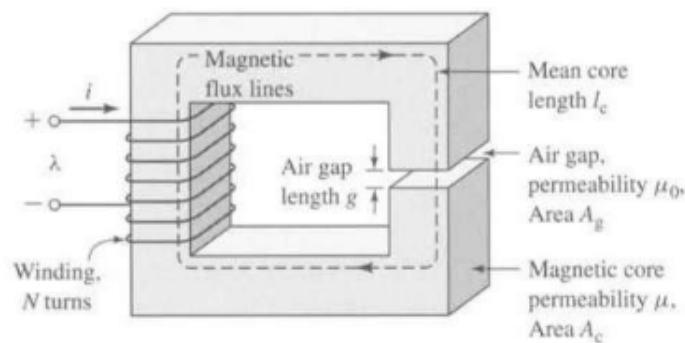

Figure 1
- **Question 1:** The magnetic circuit shown in Fig. 1 has dimensions $A_e = A_g = 9 \text{ cm}^2$, $g = 0.050 \text{ cm}$, $l_c = 30 \text{ cm}$ and $N = 500$ turns. Assume the value $\mu_r = 70,000$ for core material. (a) Find the reluctances R_e and R_g . For the condition that the magnetic circuit is operating with $B_c = 1.0 \text{ T}$, find (b) the flux ϕ and (c) the current i .
- **Question 3:** The relative permeability of the core material for the magnetic circuit of Fig. 1 is assumed to be $\mu_r = 70000$ at a flux density of 1.0 T . (a) For this value of μ_r , calculate the inductance of the winding. (b) Calculate the inductance under the assumption that the relative permeability is equal to 2900. Derive your conclusions from these problems (a) and (b).
- **Question 4:** For the magnetic circuit of Fig. 1. find (a) the inductance L , (b) the magnetic stored energy W for $B_c = 1.0 \text{ T}$, and (c) the induced voltage e for a 60 Hz time varying core flux of the form $B_c = 1.0 \sin(\omega t)$ where $\omega = 2\pi 60$.
- **Question 5:** Assume the core material in Fig. 1 is M-5 electrical steel. (a) Find the current i required to produce $B_c = 1.0 \text{ T}$. ($H_c = 11 \text{ A-turns/m}$) (b) Find the current i required to produce $B_c = 1.6 \text{ T}$. ($H_c = 71 \text{ A-turns/m}$) (c) By what factor does the current have to be increased to result in this factor of 1.6 increase in flux density?